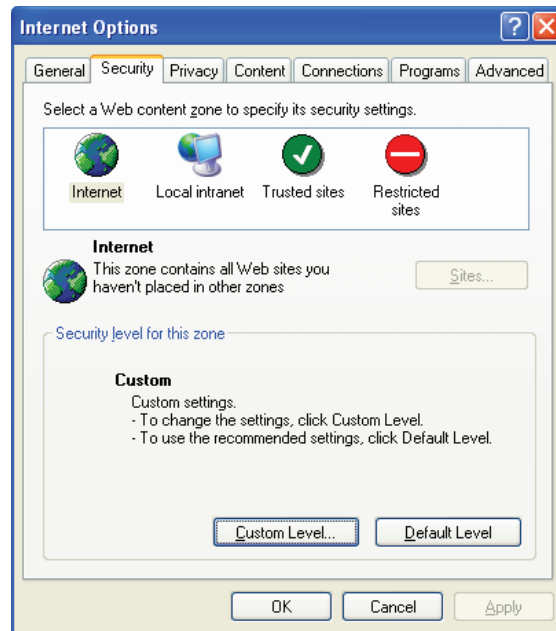

Figure 39. Security Options
3. To enable JavaScript, select the **Security** tab (see figure 39).